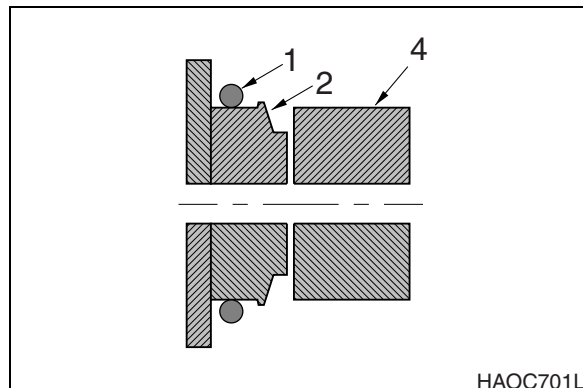

Figure 11
3. Remove the old O-ring and temporarily install the new O-ring (1, Figure 11) onto the bucket boss (2). Make sure that the O-ring groove on both the bucket link (4) and boss have been cleaned.
3. Remove the old O-ring and temporarily install the new O-ring (1, Figure 11) onto the bucket bushing (2). Make sure that the O-ring groove on both the bucket link (3) and bushing have been cleaned.